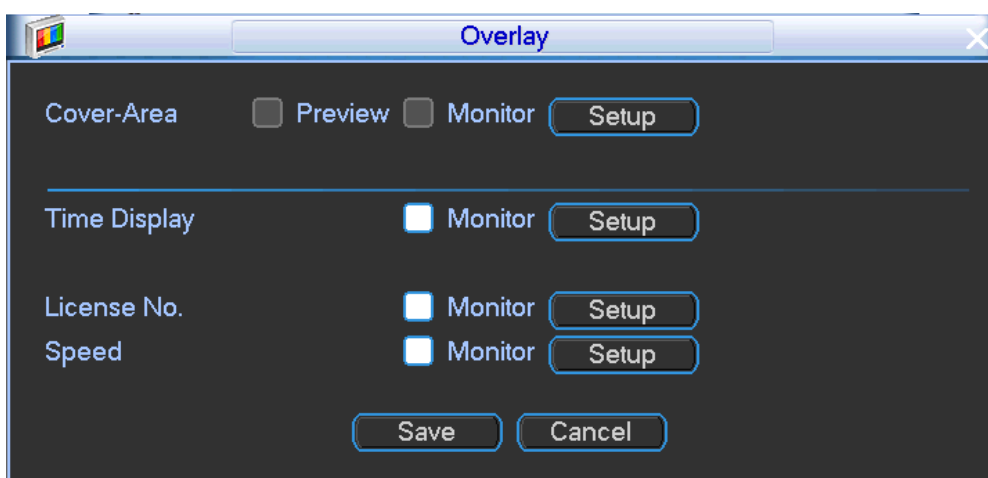

Figure 4-18
- Overlay: Click Overlay, the interface is shown as in Figure 4-18.